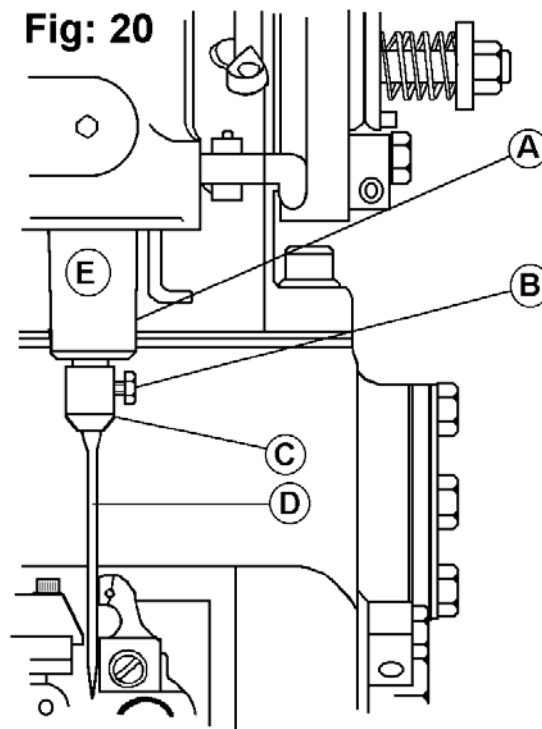
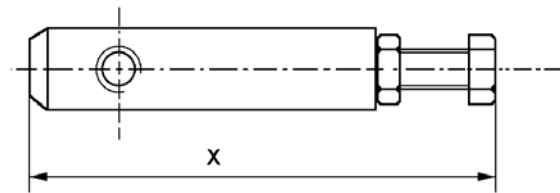

Fig: 20
Fig : 21
- See Fig:20. Remove the needle (D) from the needle holder (C) by loosening the screw (B).
- Remove needle holder (C) from the needle lever (E) by loosening screw (A).
- Measure the length X of the needle holder as shown in Fig:21.
If the needle holder **(D)** is not parallel, loosen screw **(A Fig:20)** and rotate the needle holder **(D)** until it is parallel.